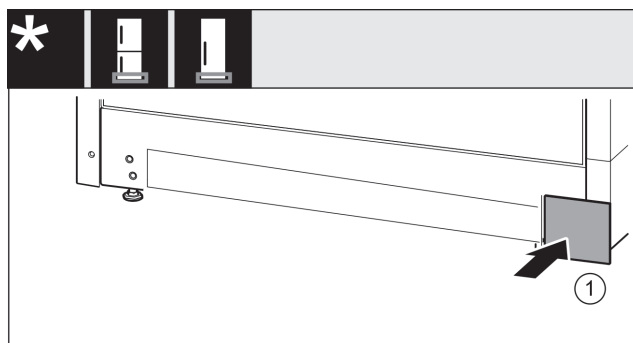

Fig. 16
- Re-attach the cover Fig. 16 (1) to the other side.